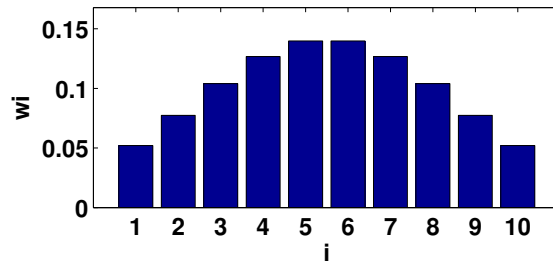

Figure 3.13: Example distribution for 10 rays using a Gaussian width of 0.5
3.12. where w_i is the weight of the i th ray, t_i is the angle between the i th ray and the sensor axis, a is the aperture angle of the sensor, g is the Gaussian width, and n is the number of rays. As depicted in figure 3.13, rays in the center of the sensor cone are given a greater weight than rays in the periphery. A wider or narrower distribution can be obtained by tuning the `gaussianWidth` field. An approximation of a flat distribution is obtained if a sufficiently large number is chosen for the `gaussianWidth`. This field is ignored for the "sonar" and "laser" `DistanceSensor` types.